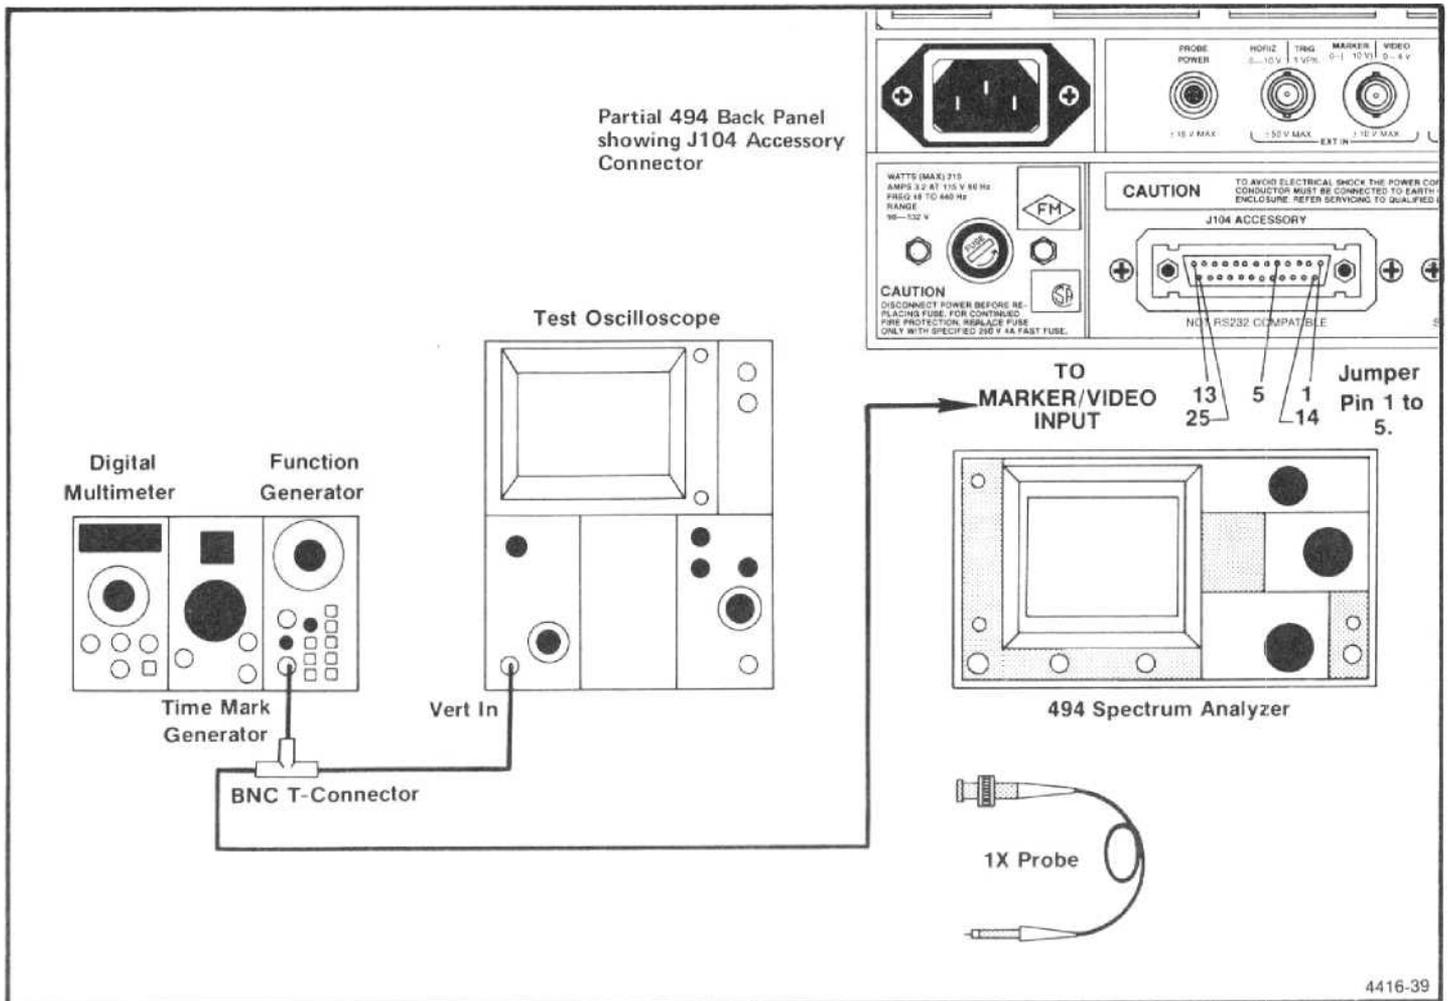

Figure 5-4. Test equipment setup for calibrating the Deflection Amplifier.
a. Test equipment setup is shown in Figure 5-4. Set the TIME/DIV to 1 ms. Position the trace on the bottom graticule line.
b. Apply a 500 kHz signal, with an amplitude of 0 to +4 V, from the sine-wave generator, to the Ext MARKER/VIDEO input. Connect a jumper between pin 1 (Ext Video Select) and pin 5 (ground) of the ACCESSORIES jack (Figure 5-4). Deactivate VIEW A and VIEW B and set Triggering to INT.